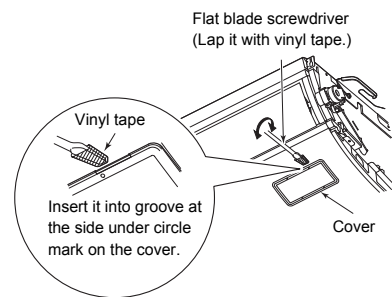

Fig.2
2. Lap the end of flat head screw driver with vinyl tape, and forcedly insert it into the groove at the side under circle mark on the cover. (Be careful not to damage the panel.) (Fig. 2)